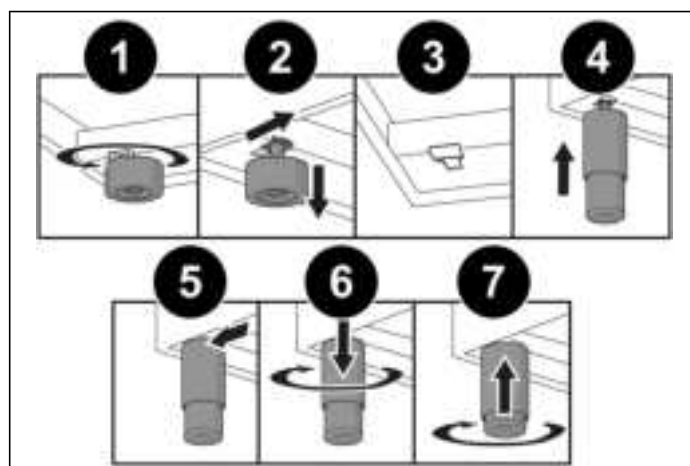

Fig. 4
- remove the supports (1 and 2, Fig. 4),
- fit the feet into the keyhole in the underside of the appliance (3 and 4, Fig. 4),
- screw the feet down until they are securely fixed to the base (5 and 6, Fig. 4),
Adjust the feet to the correct height (7, Fig. 4).
When lowering the appliance, do not maintain the pressure on the feet (Fig. 4). Use a shim underneath the base or a pallet to avoid tilting the cooker.